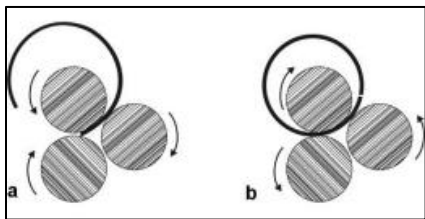

Figure 15
- Feed workpiece into machine. As it nears the end (a, Figure 15), stop and reverse direction (b, Figure 15).